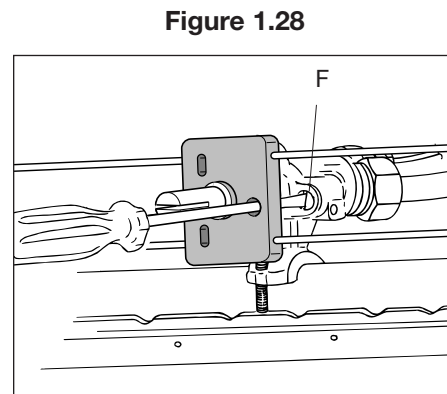

Figure 1.28
- With a thin screwdriver pass by the hole of microswitch and turn the screw **F** until adjustment is correct (fig. 1.28).